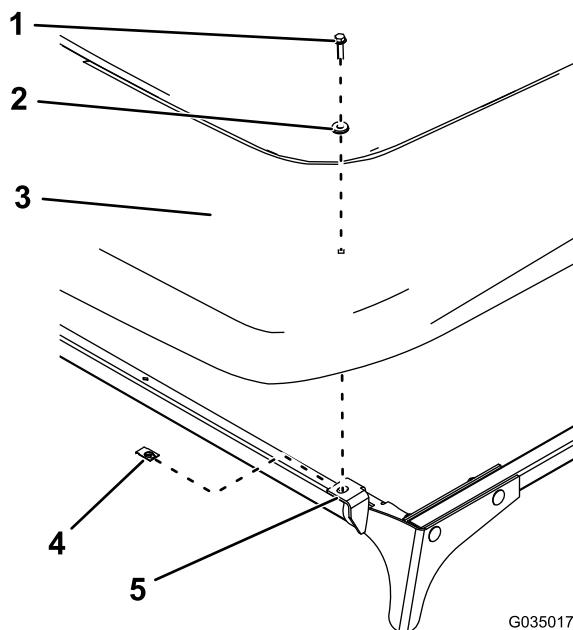

Figure 15
16. Install the sunshade to the front plates using 2 clips, 2 sealing washers, and 2 hex-flange bolts (1/4 x 1 inch) as shown in Figure 15.